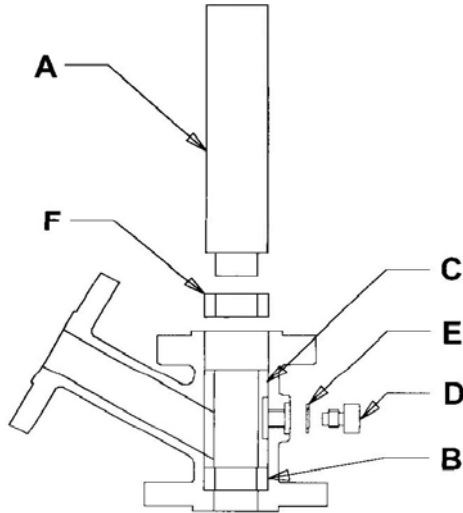

Figure 2 – Installation of TFE packing rings.
1. Using a Strahman ring seater "A" (See Fig. 2) or the valve cage "C", install inlet ring "B". The ring should sit evenly on shoulder.